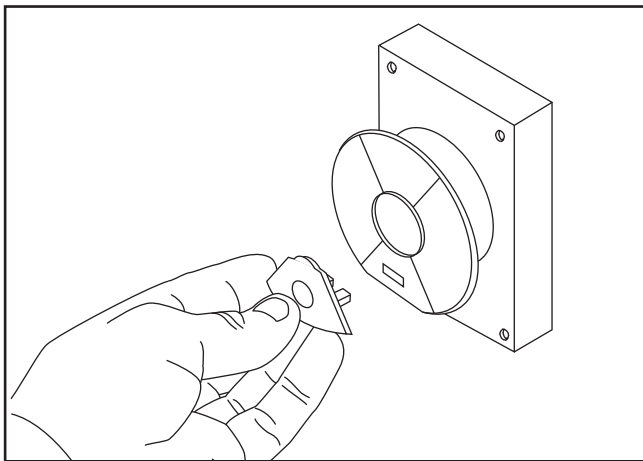

Figure 1. Example of removing disabling key from ON/STOP button.
b. Remove ON/STOP button disabling key, as shown in **Figure 1**.